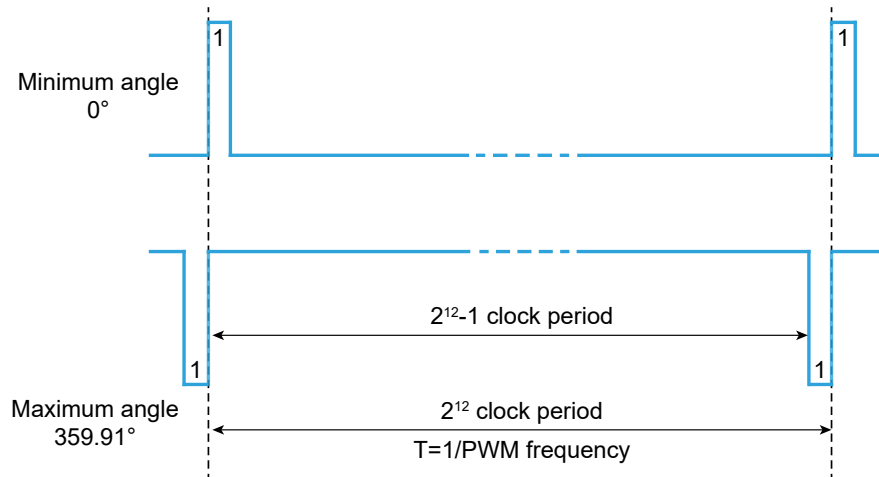

Figure 8. Waveform of PWM mode output signal
TMR3102 supports pulse width modulation (PWM) output. The duty cycle of PWM is a logic signal which proportional to the magnetic field angle. The duty cycle is limited by the minimum value (1/4096 of the period) and the maximum value (4095/4096 of the period), so the duty cycle varies from 1/4096 to 4095/4096 with the resolution of 12-bits. Figure 8 shows one period of the PWM signal, and the period (T) is $1/F_{PWM}$.